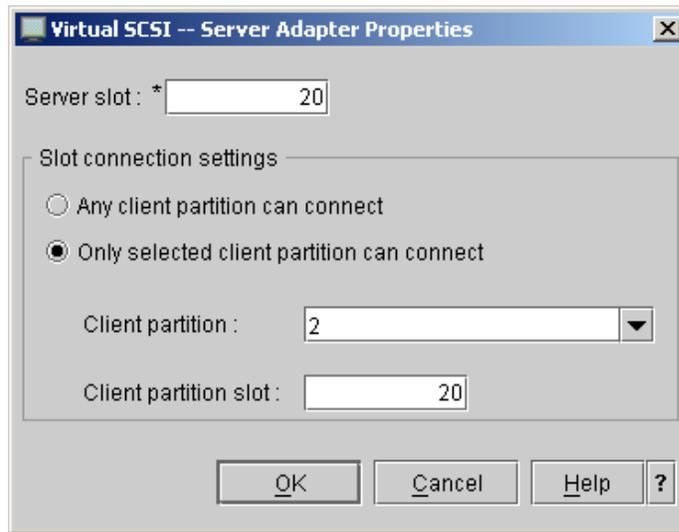

Figure 3-34 Server adapter properties
4. Click **Create server adapter** and a properties dialog appears, as shown in Figure 3-34.